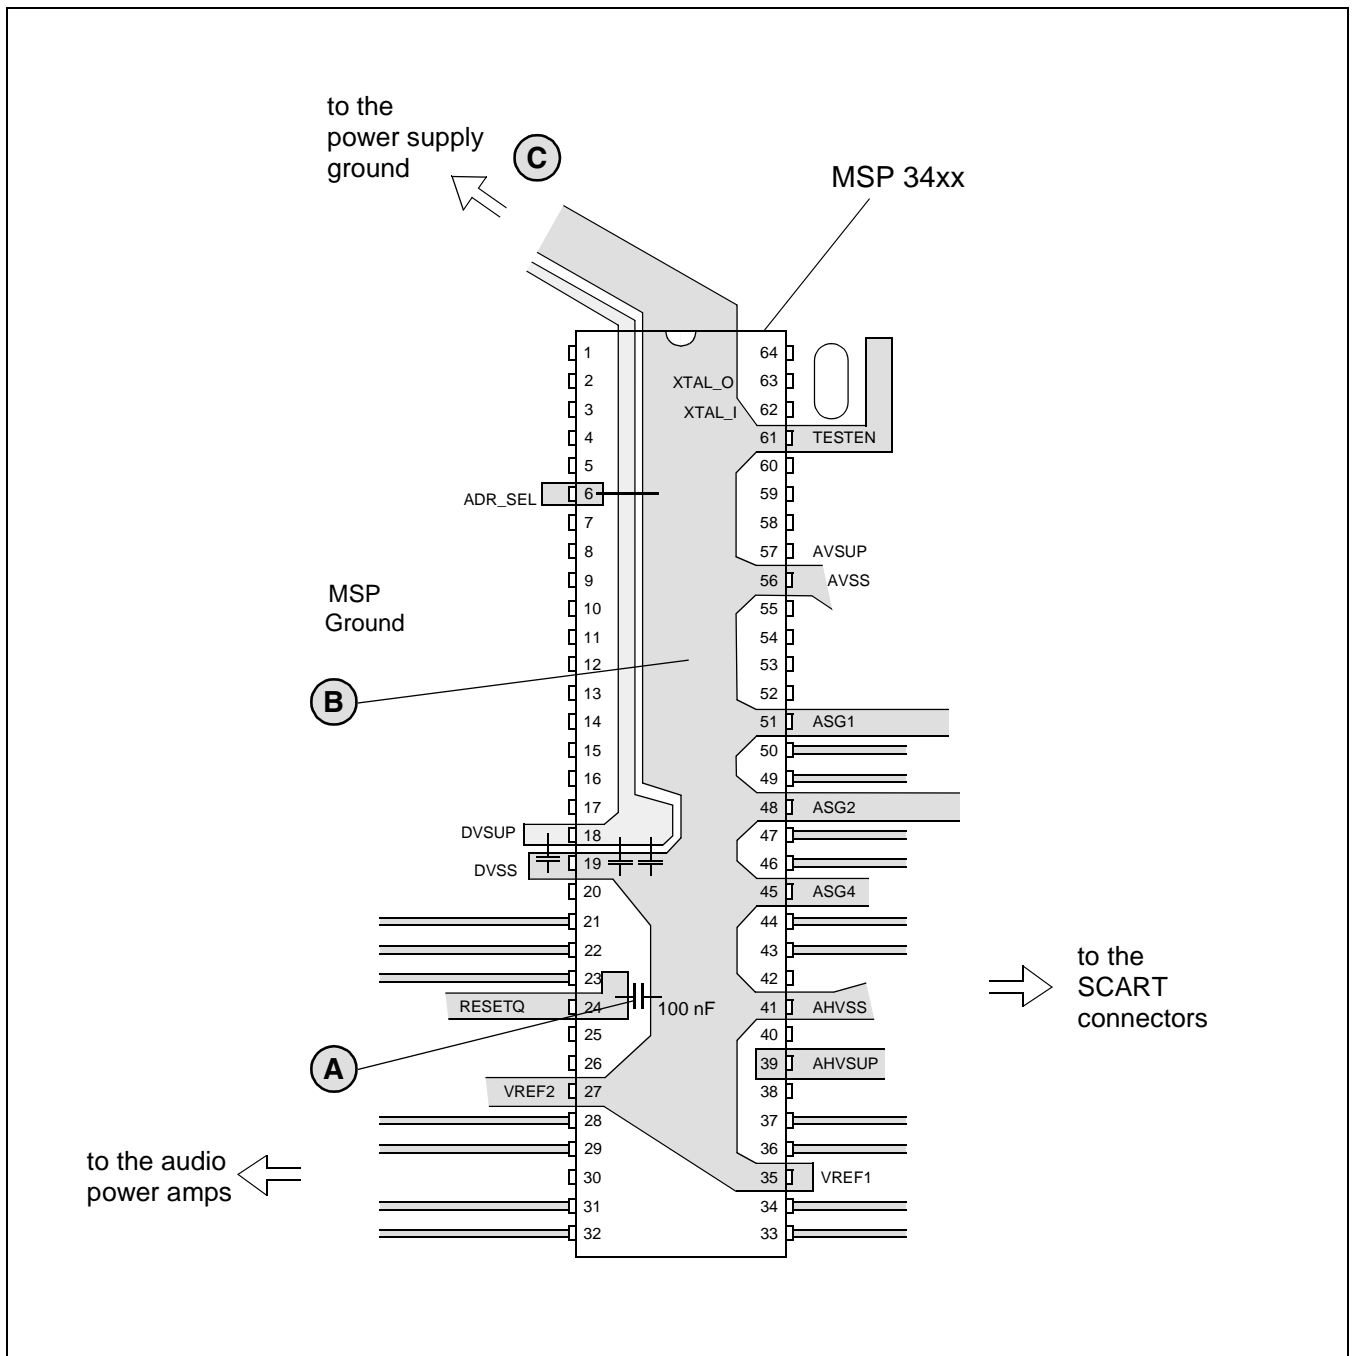

Fig. 2: Principal MSP layout for optimal ESD stability (one-layer PC-board)
1. ESD caused reset (see Fig. 2: **(A)**)
2. ESD sensitivity due to ground voltage differences (see Fig. 2: **(B)**)
1. Ground connection MSP to power supply (see Fig. 2: **(C)**)